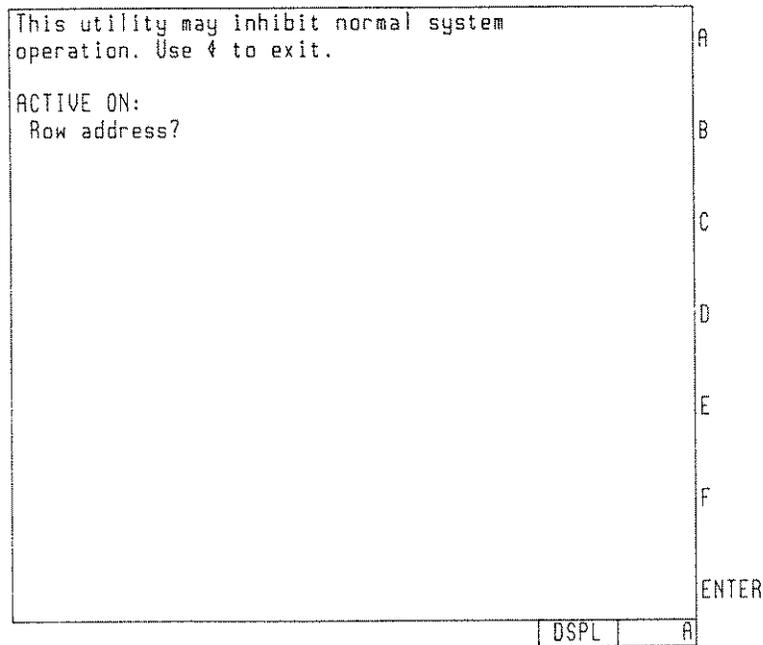

Figure 5-7. Alphabetical Softkeys
The utility has two main softkeys: [ACTIVE ON] and [ACTIVE OFF]. (See Figure 5-7.) These softkeys send the HP-MSIB command to turn the active indicator of an element on and off.
4. Enter the column address of the module as a hexadecimal number. Refer to Table 5-3 for decimal-to-hexadecimal conversion information. Use the alphabetical softkeys (Figure 5-7) and the key pad to enter the hexadecimal numbers.